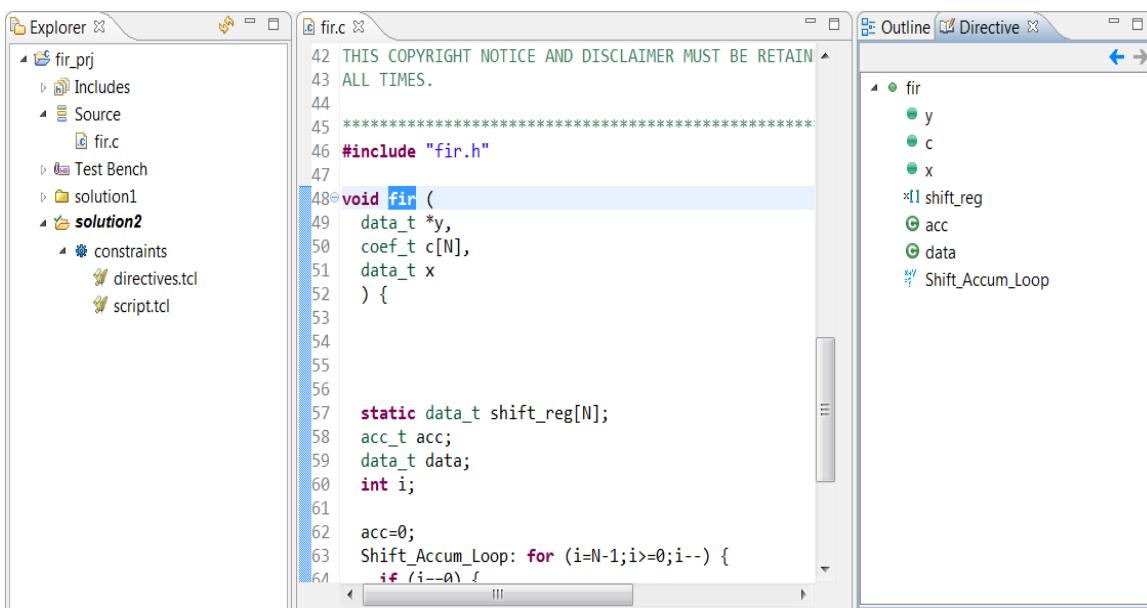

Figure 2-21: Opening the Directives Tab
4. In the **Explorer** pane, expand the **Source** container (as shown in Figure 2-21).